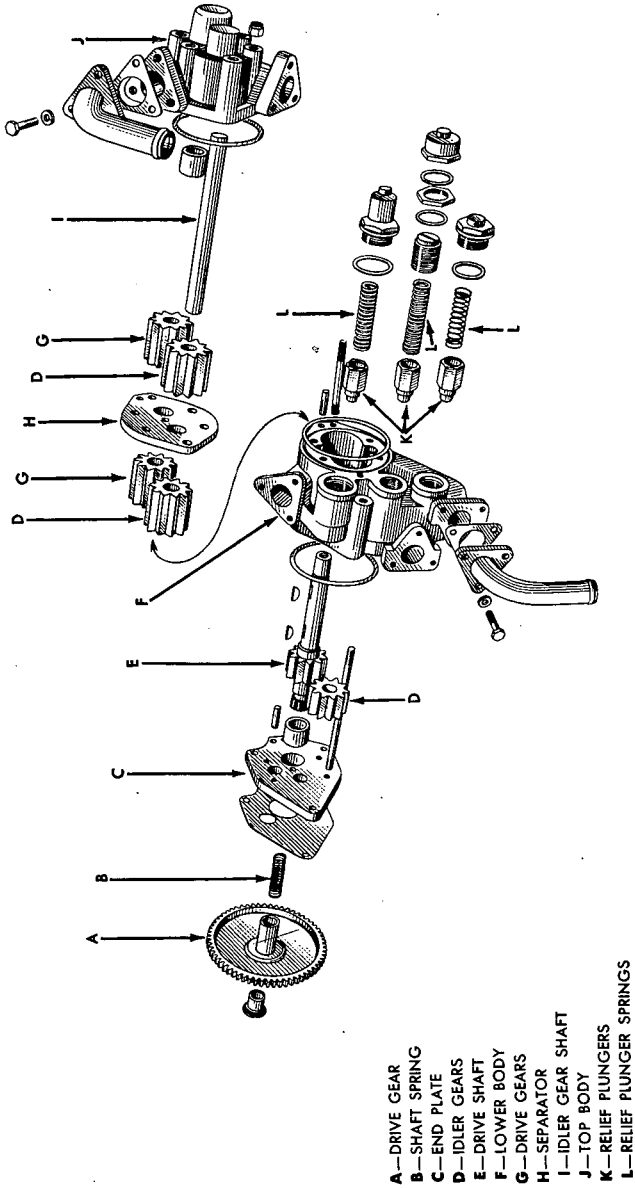

Figure 77 — Oil Pump Disassembled
a. **Remove Relief Valves.** Remove lock wire from two plugs and relief valve cover (fig. 77). Disassemble upper and lower relief valves by removing plugs, springs, plungers, and center relief valve by removing lock nut and adjusting screw. Do not mix these parts as they must be installed in their original location on assembly.